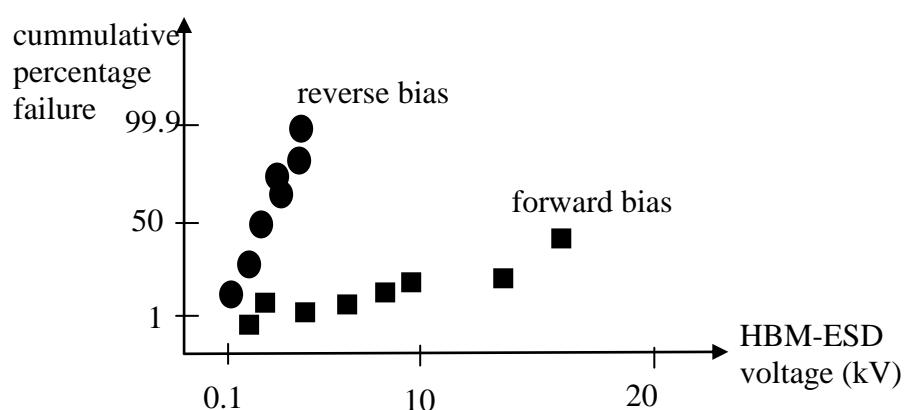

Figure 3.1
2. a. i) Describe how a Scanning Electron Microscope (SEM) works. (4)
- ii) Energy dispersive X-rays and catholuminescence are two possible SEM techniques that can be used for failure analysis. Explain how each of them works and provide an example of a failure mechanism that can be identified using these techniques. (6)
- b. i) Briefly explain key stages in IC packaging using a plastic DIP. (4)
- ii) Provide two failure mechanisms that can occur during wire bonding. What are the possible causes for the failure mechanisms provided? (2)
- iii) Give a brief description of flip-chip bonding. Discuss the main advantages of using flip-chip bonding. (4)
3. a. List and explain three types of failure mechanism in lasers. (6)
- b. Describe the key characteristics of electrostatic discharge (ESD) and explain how ESD occurs. (4)
- c. Metal spiking was found to occur in a laser diode when the current density reaches $5 \times 10^7 \text{ Am}^{-2}$. The laser diode has an area of $4 \times 10^{-8} \text{ m}^2$ and a resistance of 20Ω . Assume negligible voltage drop across the laser diode and that the human-body model is valid. (2)
- i) Describe how the human body model works. (3)
- ii) What is magnitude of the human body voltage pulse required to cause the metal spiking? (3)
- d. A number of laser diodes, manufactured under similar conditions to the laser diode in part (c), were subjected to further Human Body Model tests under forward and reverse bias. Diodes that failed showed short circuit behaviour. The results are shown in Figure 3.1. (2)
- i) Discuss the difference between forward and reverse bias failures that can be observed. (3)
- ii) Have the laser diodes been sufficiently well designed to handle ESD if the largest current expected during operation is $< 2 \text{ A}$? (2)